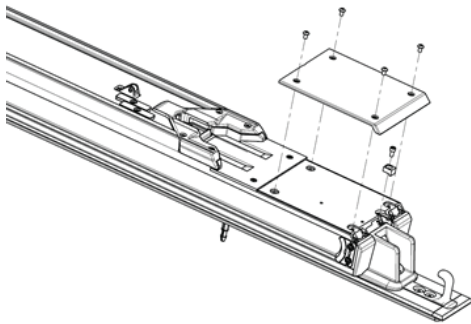

Figure 1:
2. Using a T25 Torx driver and a 5/32" hex wrench, remove the transfer foot end wear pad and trolley magnet activator. Discard the trolley magnet activator and its screw (Figure 1 on page 1). Use the supplied trolley magnet activator (6390-001-106) and socket head cap screw (0004-658-000) during reinstallation.